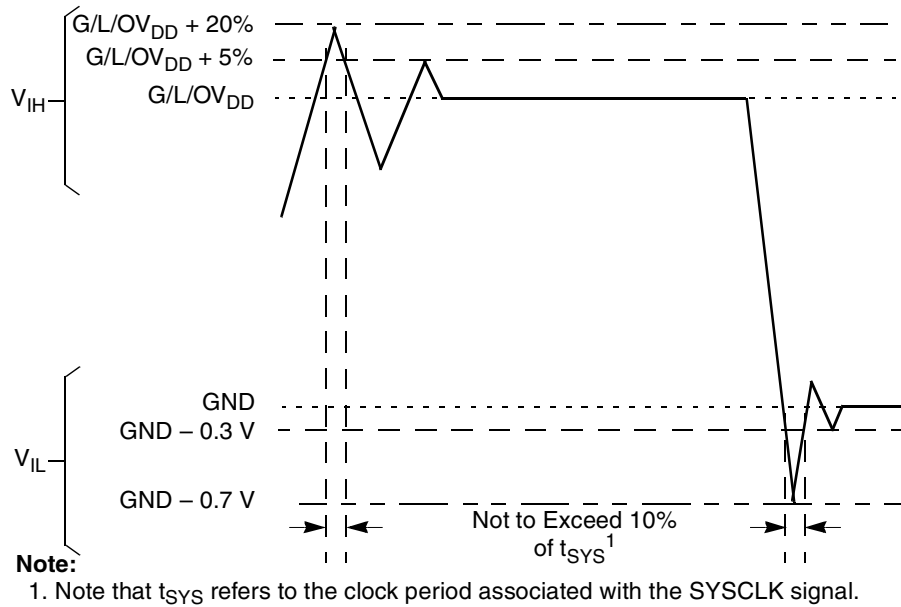

Figure 2. Overshoot/Undershoot Voltage for $G_{V_{DD}}/O_{V_{DD}}/L_{V_{DD}}$
- (M,L,O) V_{IN} and MV_{REF} may overshoot/undershoot to a voltage and for a maximum duration as shown in Figure 2.
Figure 2 shows the undershoot and overshoot voltages at the interfaces of the MPC8541E.